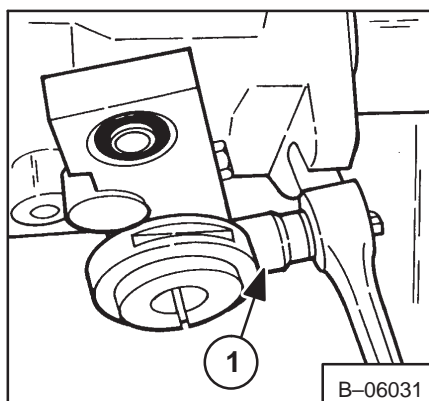

Fig. 3-23 Pintle Lever
10. Remove the pintle levers (Fig. 3-23) and guides from the pump shafts.
3. Tighten the bolt on the pintle lever to 40-50 ft.-lbs. (54-68 Nm) torque (Fig. 3-23, Item 1).